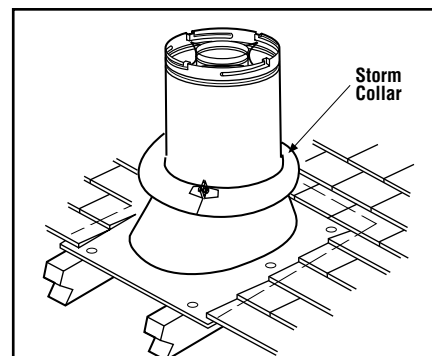

Figure 28
J. Install the storm collar - Install the storm collar, supplied with the flashing, over the vent/flashing joint. See **Figure 28**. Loosen the storm collar screw. Slide collar down until it meets the top of the flashing. Tighten the adjusting screw. Apply non-combustible caulking or mastic around the circumference of the joint to provide a water tight seal.